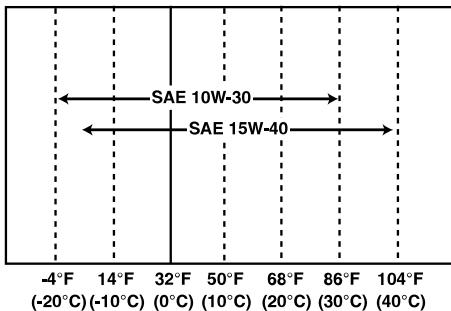

Figure 7
- *Select the oil viscosity based on the ambient temperature where the engine is being operated. See the SAE Service Grade Viscosity Chart (Figure 7).*